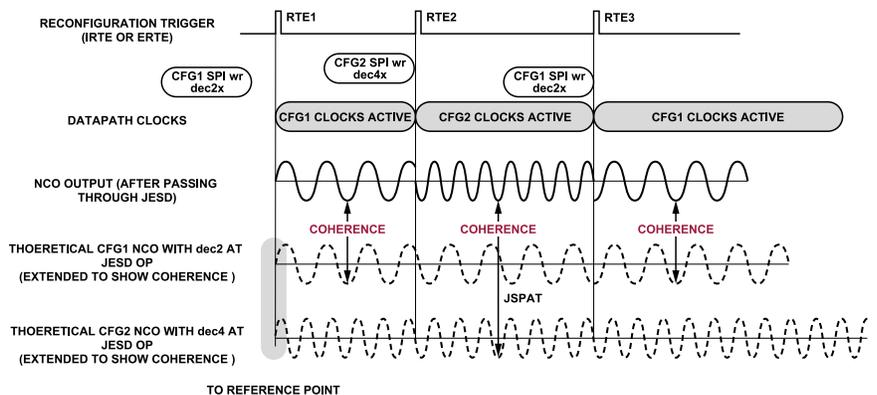

Figure 121. Example of dynamic reconfiguration T0 Coherence with FSRC disabled
**T0 Coherence with FSRC disabled:** Implies that Coherence of NCOs and DL is with regards to the RTE which initiated the first configuration, as shown in Figure 121. T0 is defined as the reference time chosen (by SPI programming) to reset the clocking, timestamp counter and NCOs.